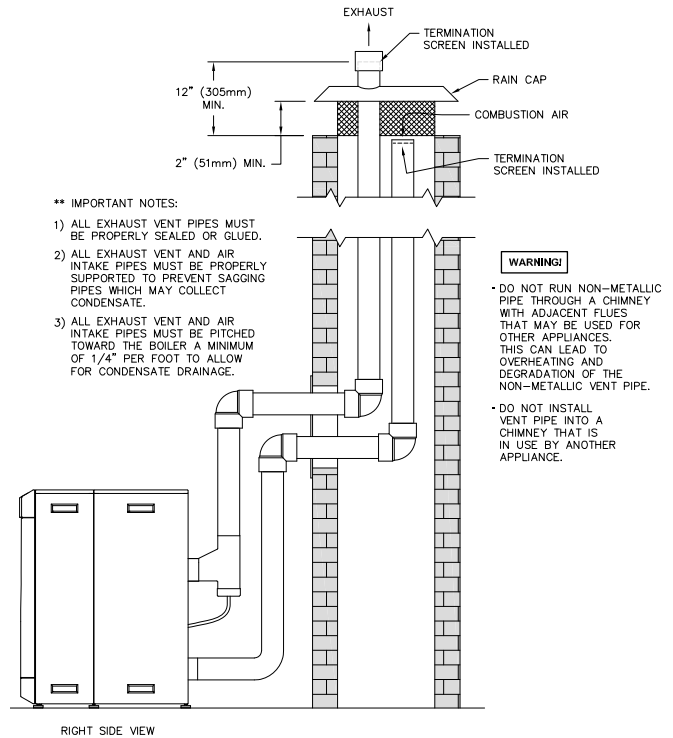

Figure 3.8: Vertical Exhaust Routed Through an Unused Chimney with Outdoor Air
- c. Figure 3.8 illustrates another vertical venting configuration through an unused chimney. In this arrangement the combustion air is supplied through the chimney as well.